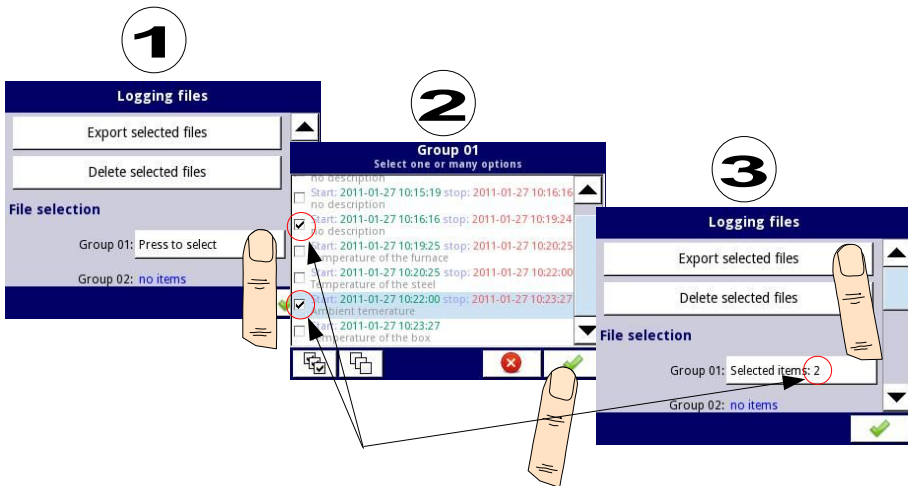

Fig. 7.19. Steps of exporting logged files to flash drive
An example of exporting 2 logged files from group 1 is shown in **Fig. 7.19**. First plug the flash drive into the device (when the device is equipped with one of the communication modules).
Deleting files from the device is similar export logging files, the difference is that instead of pressing the **Export selected files** button in (3) step (see **Fig. 7.19**), press the **Delete** button.